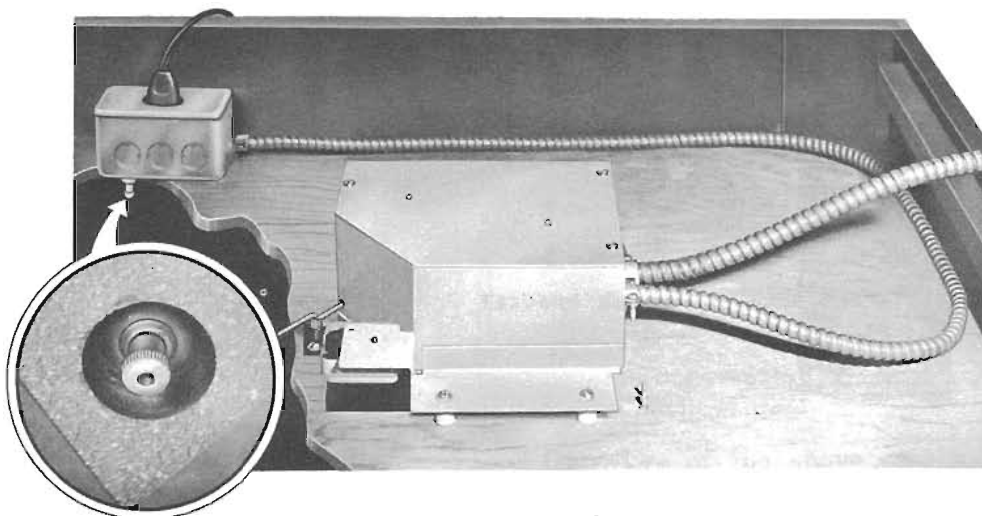

Fig. 9 — P-19A400 Switch Assembly
5.01 The P-19A400 assembly (Fig. 9) provides a power switch in the ceiling of indoor booths to enable customers to turn sign off or on as desired.